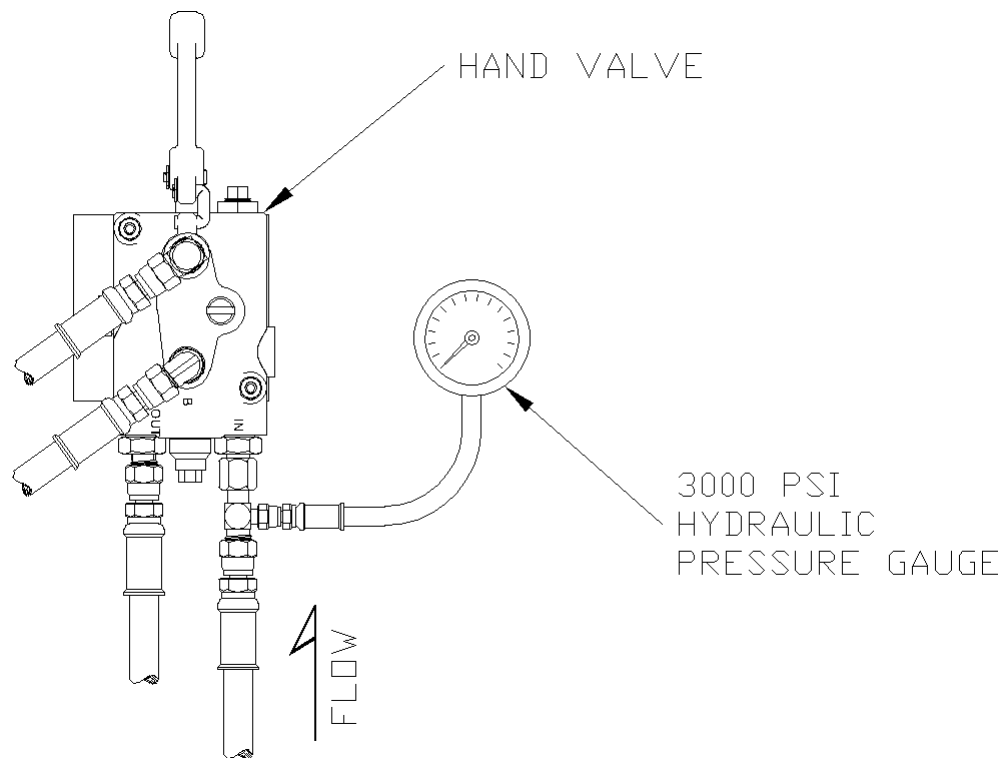

figure I-4
7. Install a 3000 psi hydraulic pressure gauge with the necessary adapter in the hydraulic line connected to the “IN” port of the hand valve as shown in figure I-4.